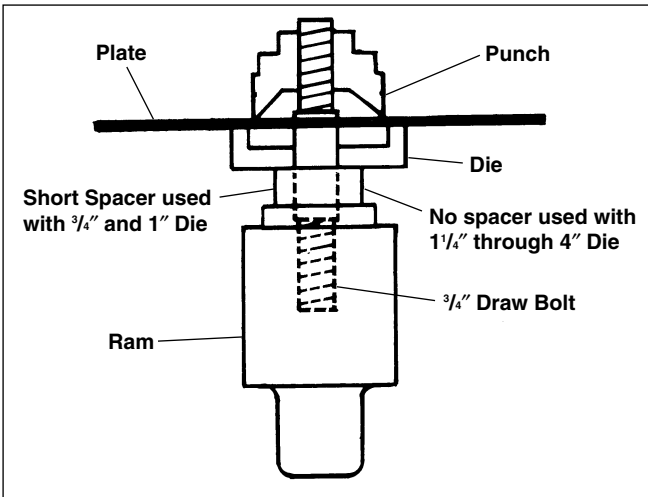

Figure 4 – Punching 3/4" Through 4" Holes
4. Pass the end of the draw bolt and the end of the bolt through the previously drilled pilot hole and thread the punch onto the end of the bolt so that the punch points just touch the material (*Figure 4*). Operate the pump as described below.